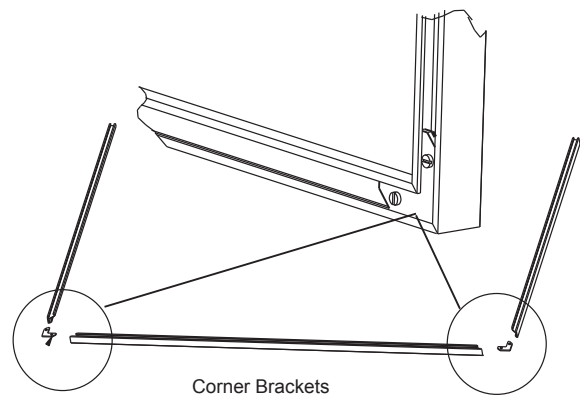

Figure 41.3
4. Using a standard flat screw driver tighten the corner brackets (**Figure 41.3**).